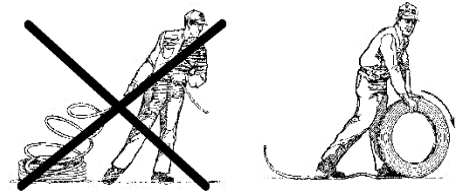

Figure 5.0.6.5.2
- For Reeving 8/2 See Figure 5.0.6.5.1(b)
- For Reeving 12/2 See Figure 5.0.6.5.1(c)